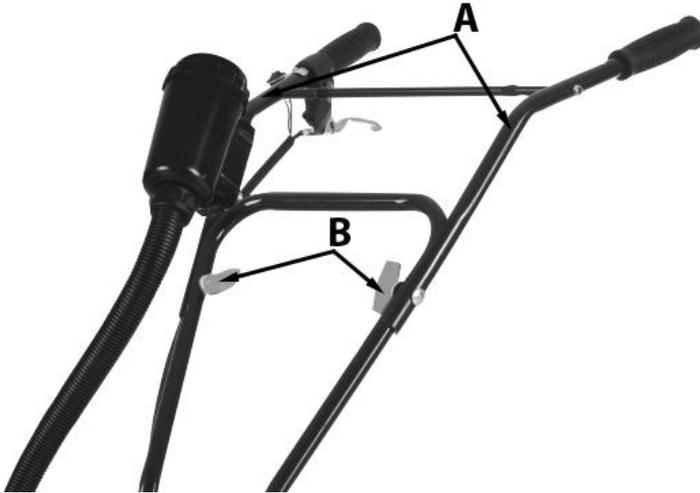

Fig. 5
Secure both handles (A) Fig. 5 on the middle part of the frame. To do this, use two wing nuts, two
mounting bolts and two spring washers from the cultivator mounting kit (B) Fig. 5. Do not allow excessive tightening of the wing nuts.